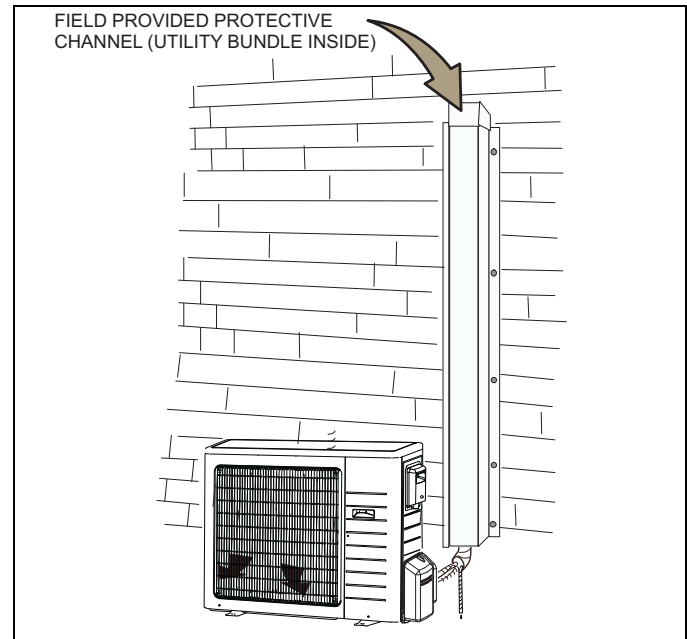

FIGURE 37: Exterior Wall Utility Cover (Optional)
4. An optional field-provided exterior wall channel may be used in lieu of taping the utility bundle to protect the bundle from UV rays, weather, etc. See Figure 37.